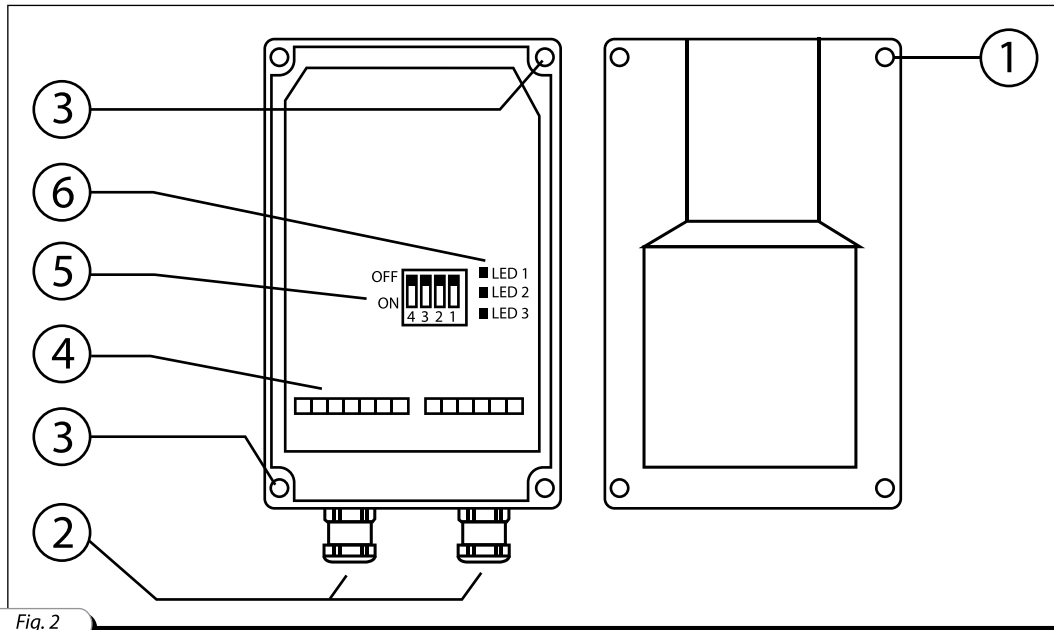
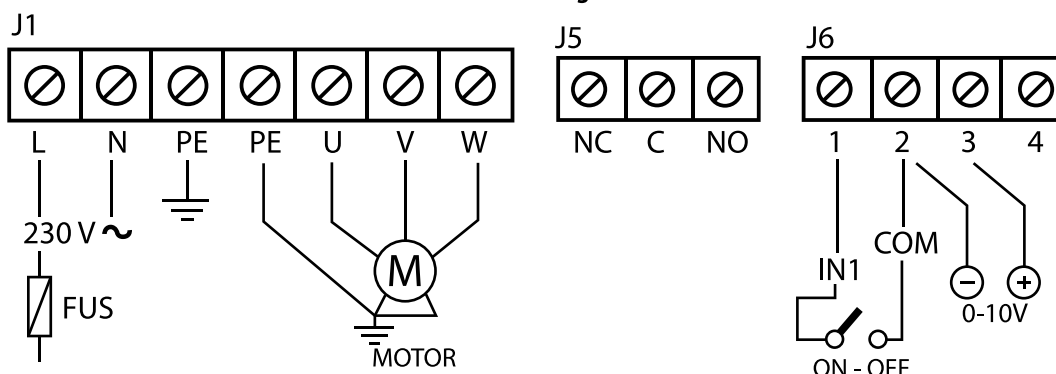

Fig. 2
Fig. 4
- Remove the front panel (see Fig. 2).
- Secure the variable frequency drive to the mating surface by using the mounting holes in the rear wall (see Fig. 2).
- Complete the electrical connections according to the diagram (see Fig. 3 and Fig. 4). External electrical conductors are connected to the unit by means of screw terminals 4 (see Fig. 2). The conductors are routed to the housing through sealed lead-ins 4 (see Fig. 2). The external lead-in (220 V / 50 Hz) must be equipped with an automatic circuit breaker built into the stationary wiring.